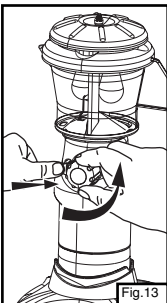

Fig. 13
- Open burner valve and repeatedly push igniter button and ignite the mantles. (Fig. 13)